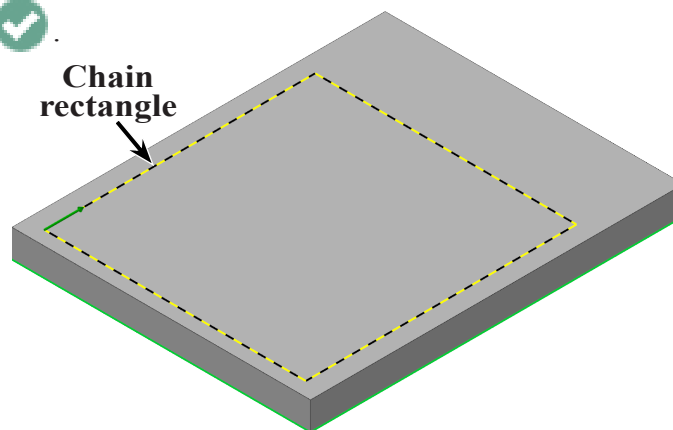

Fig. 35
Step 3. Click a **line of rectangle** to chain rectangle, **Fig. 35**.